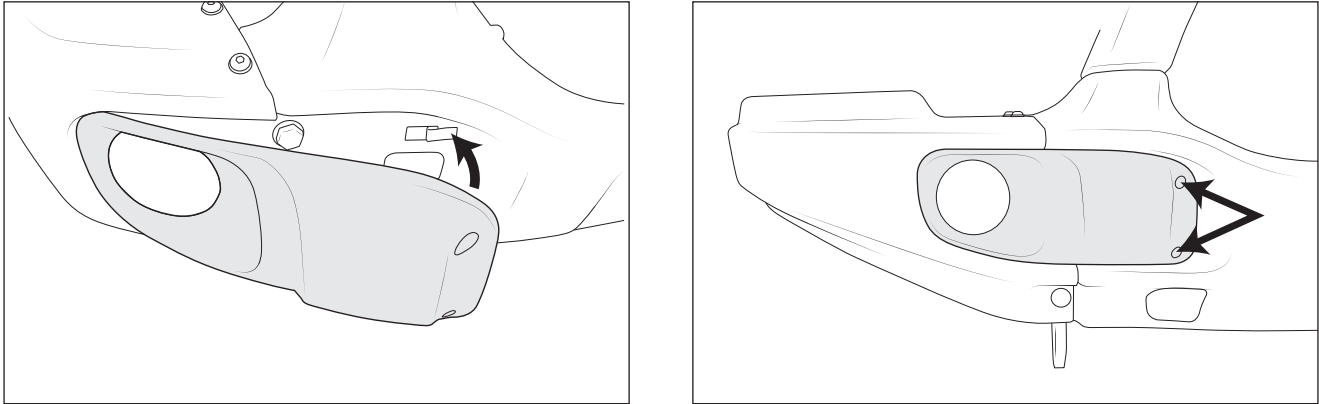

Figure 29
2. Install fog bezels by hooking outer tabs under cutouts in the corner stamping, then install provided black #8 screws through holes in fog bezel and into the U-nuts installed in previous step. Push bezel outward to make sure it fully seats into the corner and snug the screws with a T20 Torx driver. Do not overtighten or the screw head could pull through the plastic bezel (fig. 29)